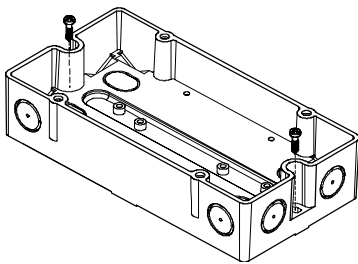

Fig. 2
- In a housing FDCH221 available as an accessory (Fig. 2...4)